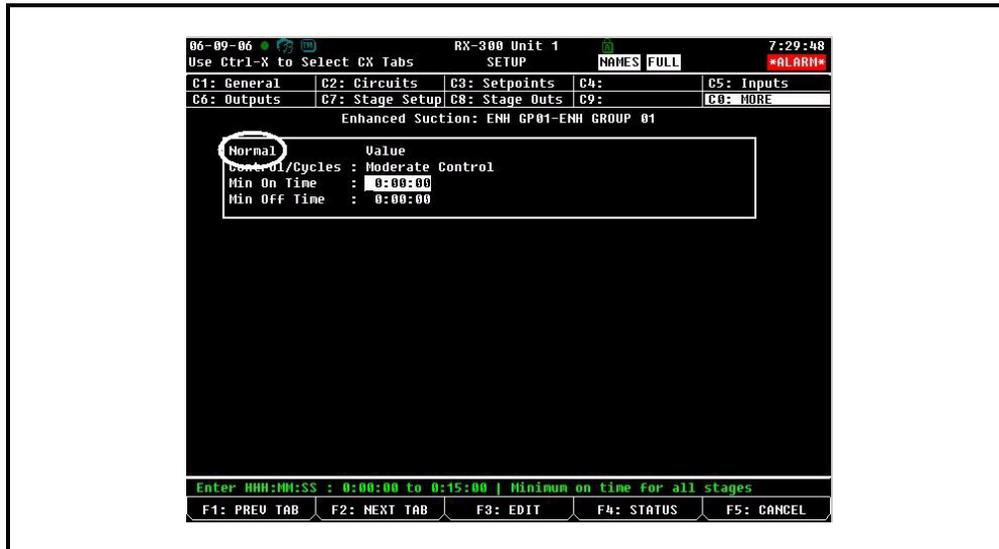

Figure 1 - Normal Setup Under the More Tab
The Normal tab (previously labeled Advanced) has a new parameter called Control/Cycles that allows you to adjust the overall behavior of the suction control algorithm instead of using PID (see *Figure 1*). With the addition of the Control/Cycles parameter, which is used to tune the control of the compressors, the PID tuning parameters have been removed as PID is no longer used by the algorithm.
**NOTE: If compressor minimum ON/OFF times are still desired, you may set them up under the *More* tab under *Normal* Setup (see *Figure 1*).**